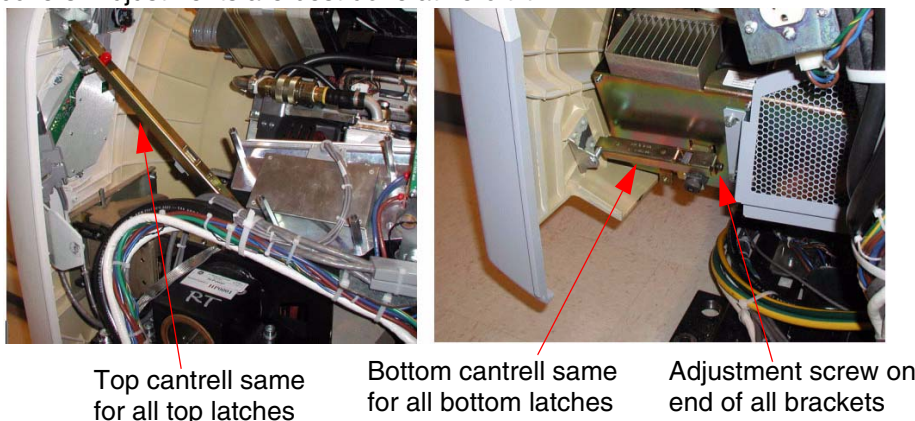

Figure A-27 Cantrells
- 3.) Use a 3 mm hex wrench to adjust the brackets on the front/rear covers for the fingers on the outer edge of the covers. Slide the bracket until it lines up with the top cover finger (see Figure A-27).